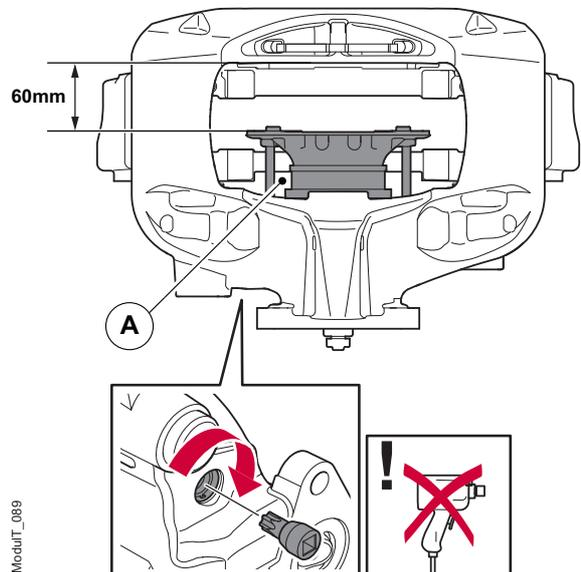

Figure 28. Max extension to check the thrust plate bellows
2. Using Haldex special tool P/N95232 "6 Tools" (Torx 55), manually turn the reset shaft clockwise to adjust the brake so that the thrust plate (A) is extended and the bellows can be viewed. Stop when the distance between the inner pad face of the thrust plate and outer pad face on the calliper is 60 mm, see figure 28.